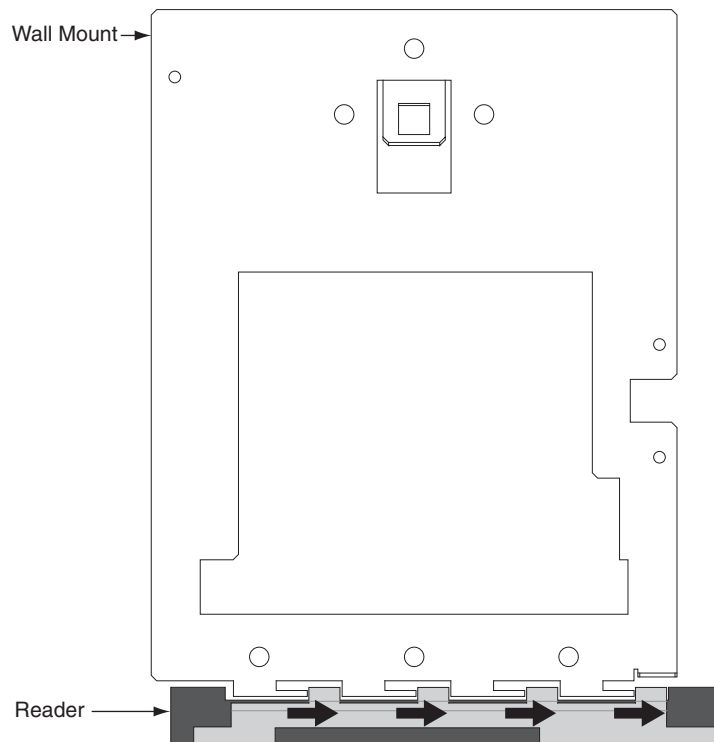

Figure 1
4. Remove HandReader from wall by sliding it to the right, away from the wall mount. See figure 1 below.